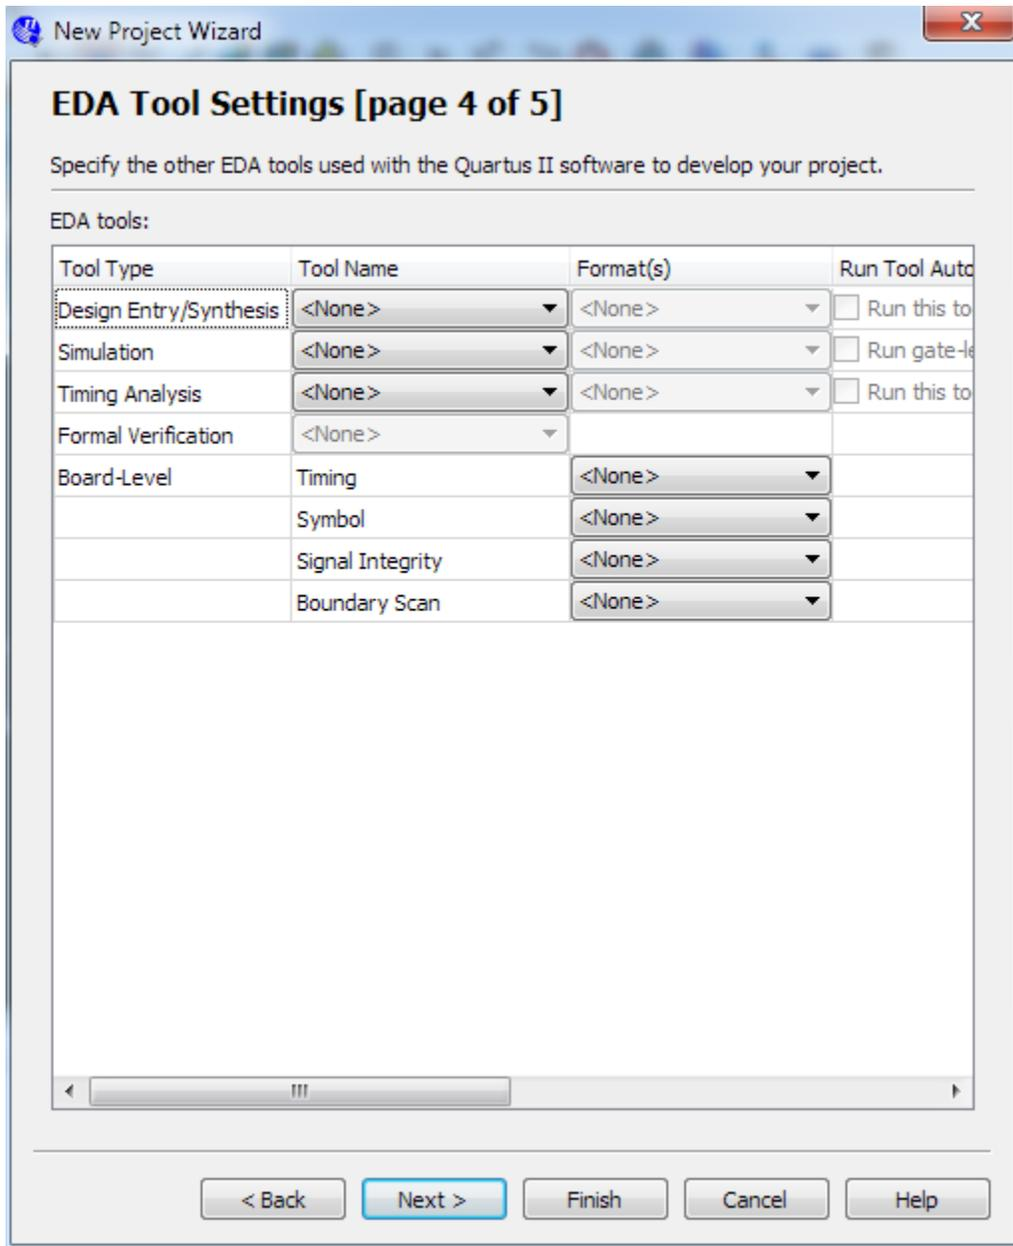

Figure 1-6 New Project Wizard: EDA Tool Settings [page 4 of 5]
3. Click **Next** to next window. We choose device family and device settings. You should choose settings the same as the Figure 1-5. Then click **Next** to next window as shown in Figure 1-6.